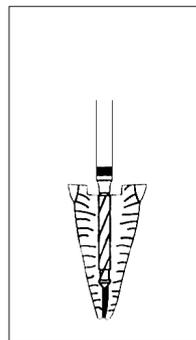

Fig. 3
- f) Final enlargement of the post canal (Fig 3)